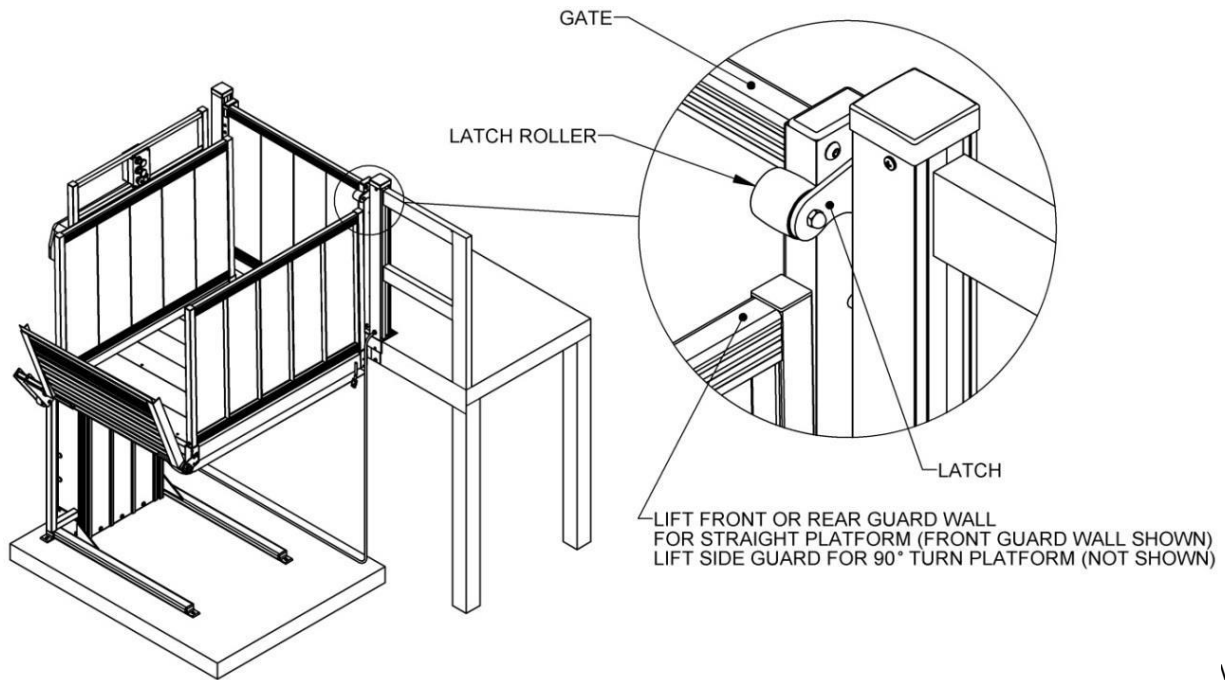

FIG. 9.3
- 9.4.4. The front or rear guard wall of the straight platform or the side guard wall of the turn platform must align with the latch roller on the top landing gate, depending on which way the top landing gate opens (FIG. 9.1, FIG. 9.2, and FIG. 9.3).
- 9.4.6. Place the top landing gate on the porch or deck and adjust its position side to side until the front or rear guard wall of the platform aligns with the latch roller on the top landing gate without hitting the latch (FIG. 9.3).